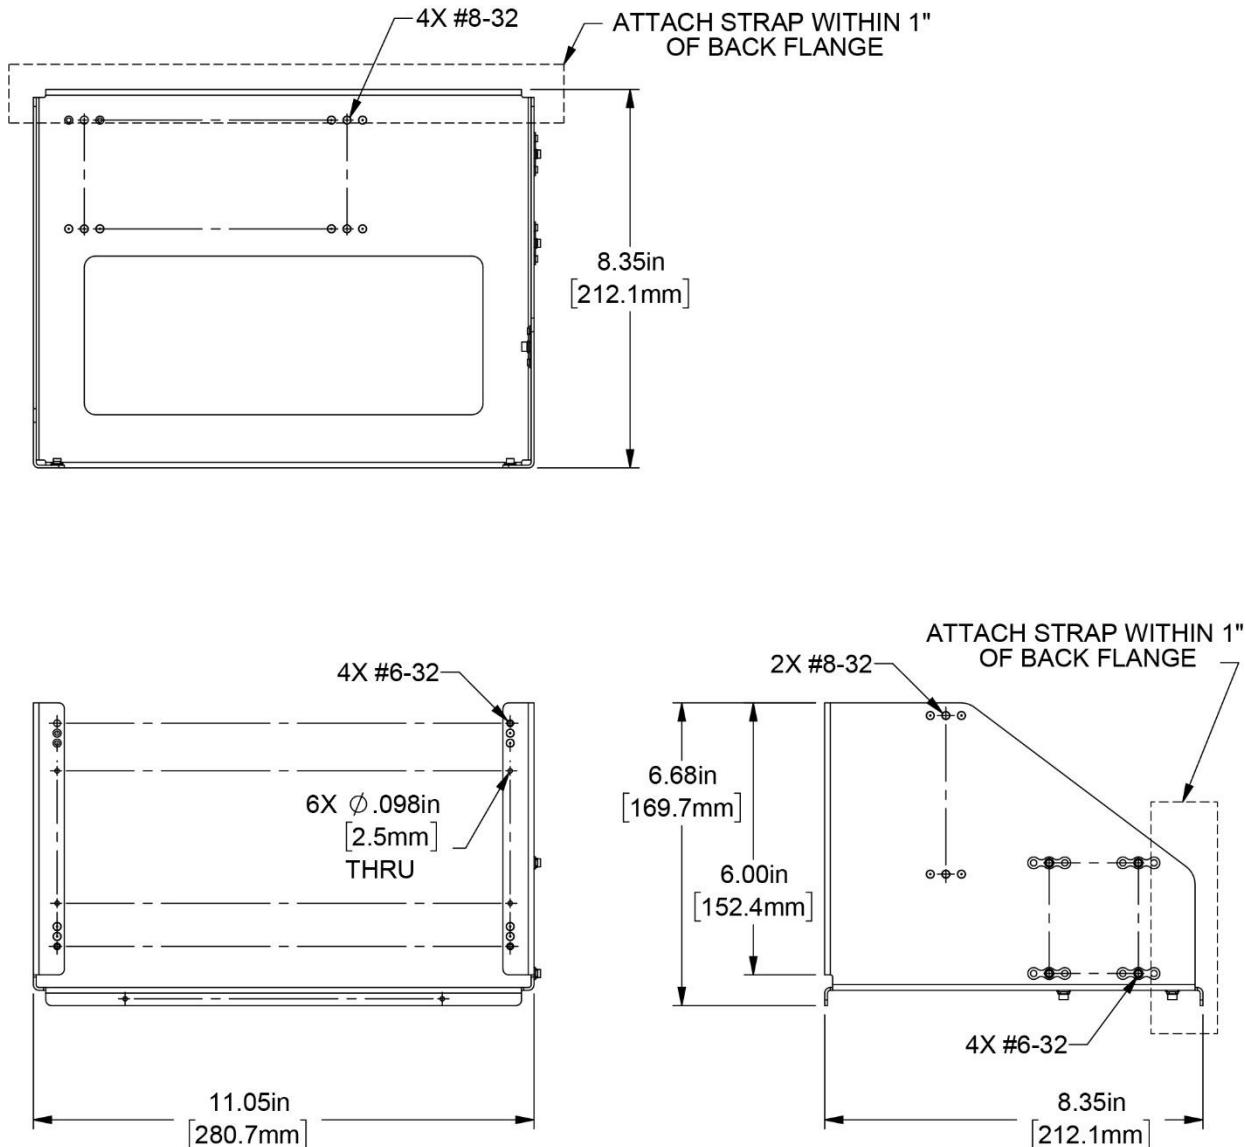
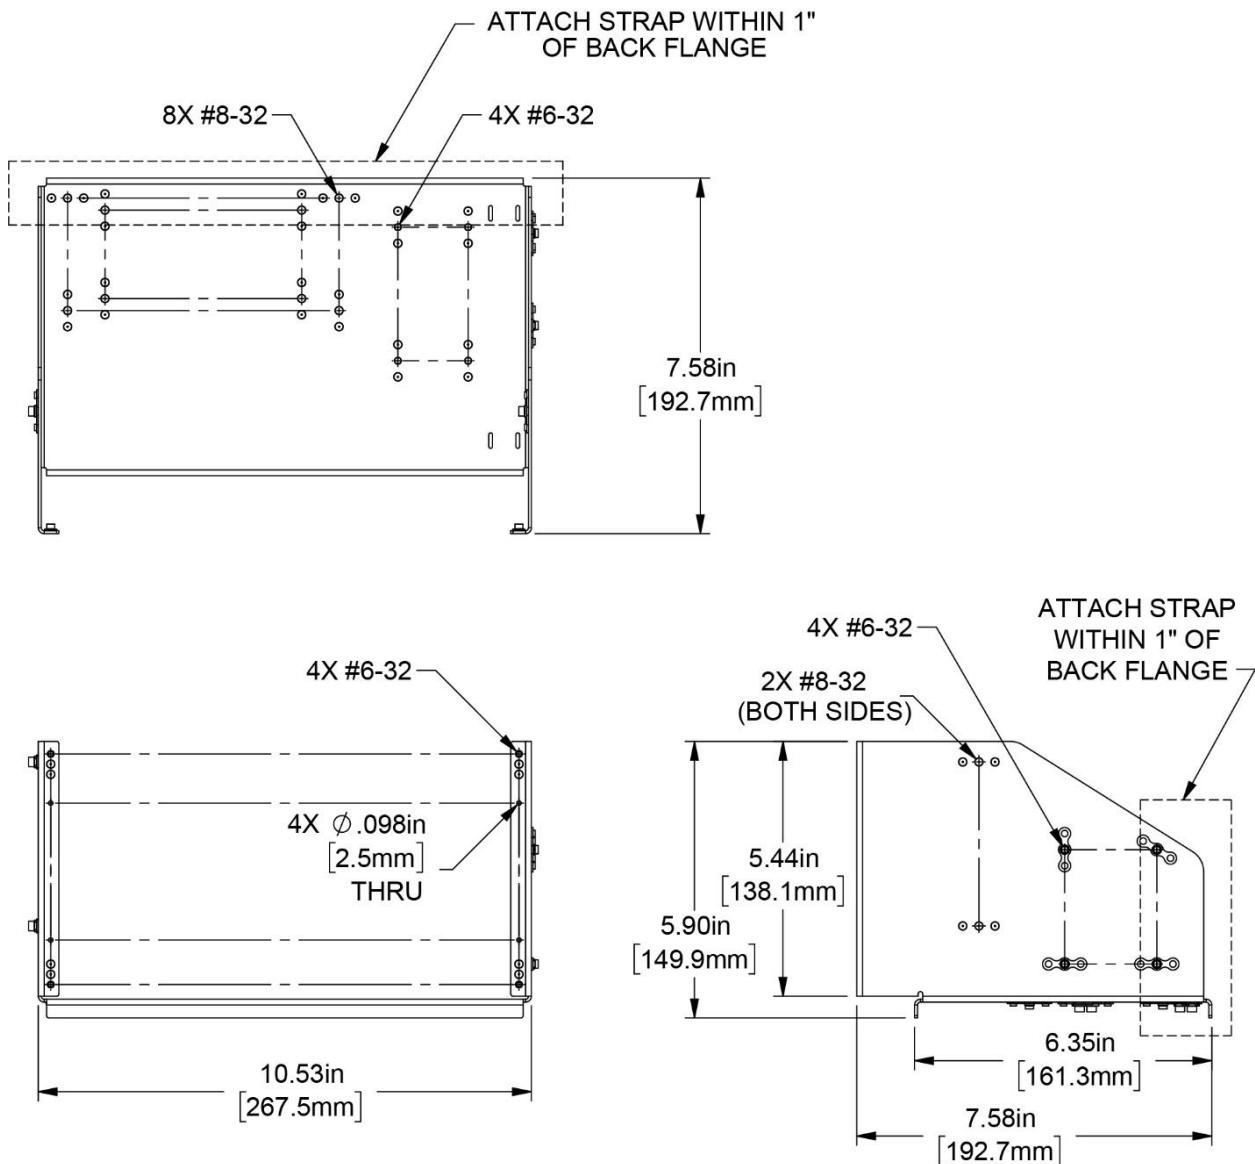
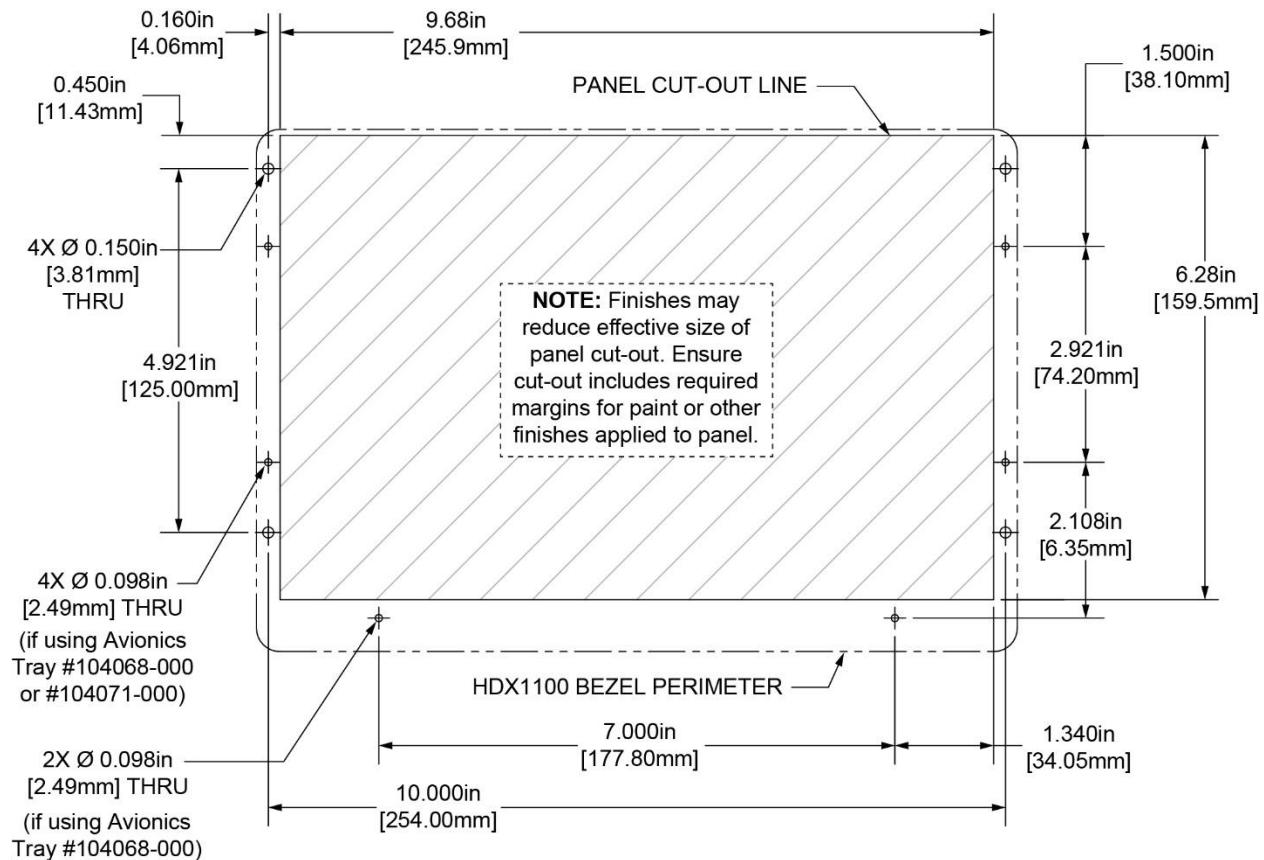
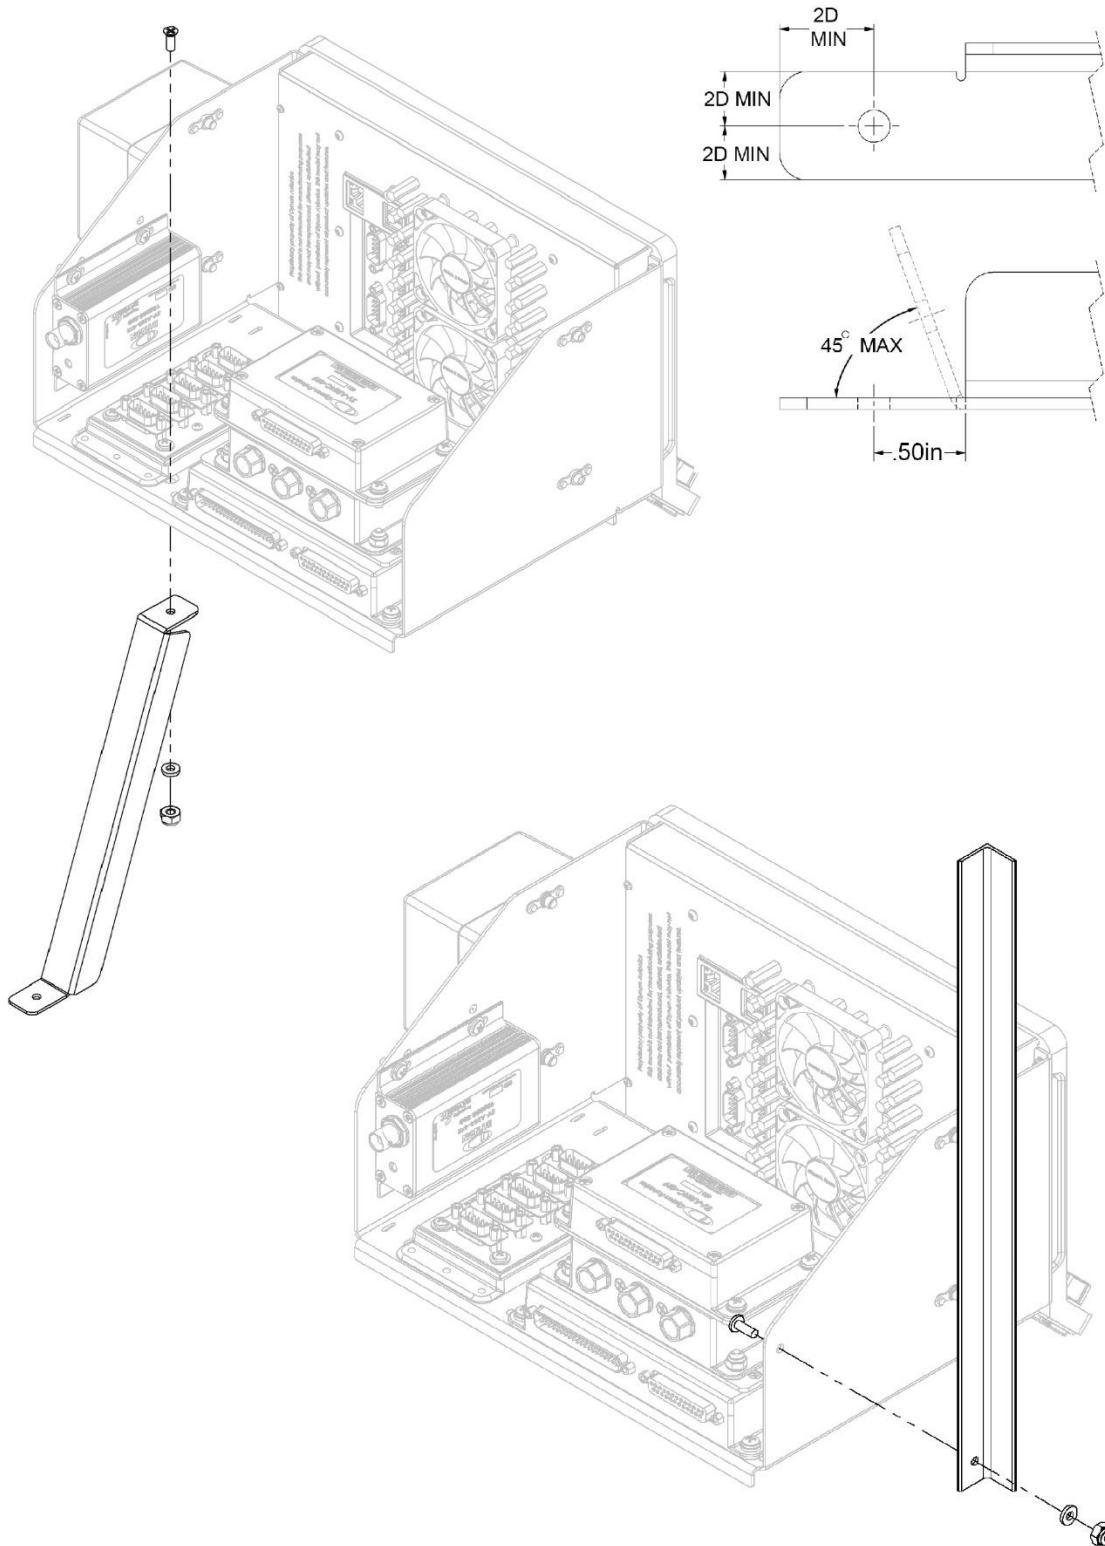

Figure 8 – Physical Dimensions for 10" Avionics Tray for SV-HDX1100
Figure 9 – Physical Dimensions for SV-HDX1100 Universal Module Mounting Tray Kit
Figure 10 – Panel Cut-out Dimensions for SV-HDX1100 Display
Figure 11 – Stabilizer Strap Attachment Examples
- 10" Avionics Tray for SV-HDX1100 Display – Figure 8 and Figure 10.
- SV-HDX1100 Universal Module Mounting Tray Kit – Figure 9 and Figure 10.
8. If required, install a stabilizing strap to further support tray (see Figure 6, Figure 8, and Figure 9 for tray attachment points; see Figure 11 for tray attachment examples).